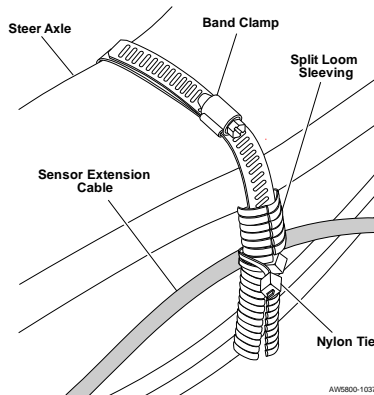

Figure 18. Securing the Sensor Extension Cable
5. Routing the sensor cable: Run the steer sensor cable (014-1500-028) along the rear of the axle towards the side of the truck (driver's side or passenger's side), securing with a band clamp (p/n: 139-0011-000). Place split loom (p/n: 380-0004-001) over the band clamp where it crosses over the cable. Secure the cable to the band clamp with nylon ties (p/n: 145-4552-001). See Figure 18. Use additional 24" nylon ties (p/n: 145-0007-000) as required to secure the cable to the steer axle.